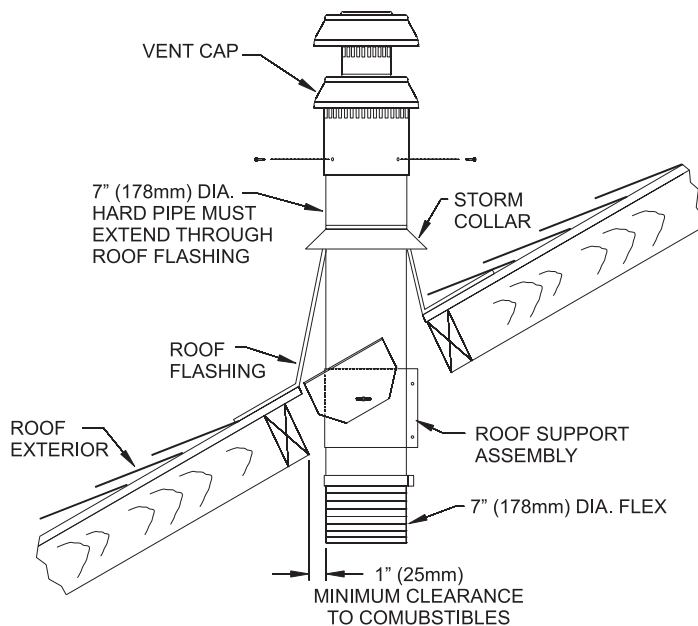

Figure 48
19. Once the lower connections are made and the flex pipe is secured with support bands as required (3 feet minimum between supports) then the roof flashing can be installed. **See Figure 48.**